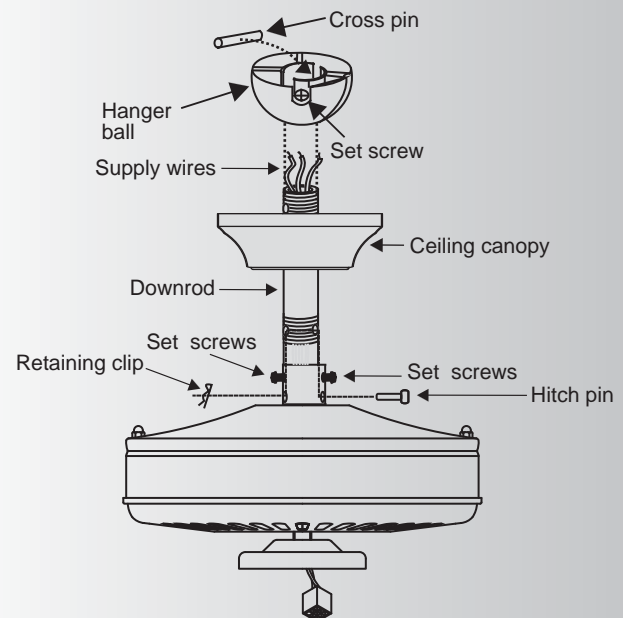

Fig. 7
Step 2. Loosen the two set screws and remove the hitch pin and retaining clip from the coupling on top of the motor assembly. (Fig. 7)
Next, replace the hitch pin and retaining clip. Tighten both set screws. (Fig. 7)
Step 4. Slip the coupling cover and canopy onto the downrod as Figure 7.